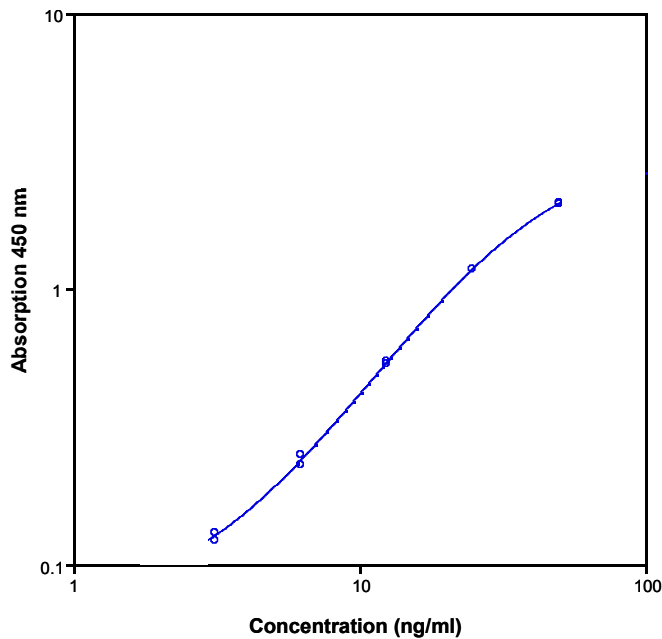

Fig. 8 Representative standard curve for human Cathepsin L ELISA. Human Cathepsin L was diluted in serial 2-fold steps in Sample Diluent.
- A representative standard curve is shown in Figure 8.